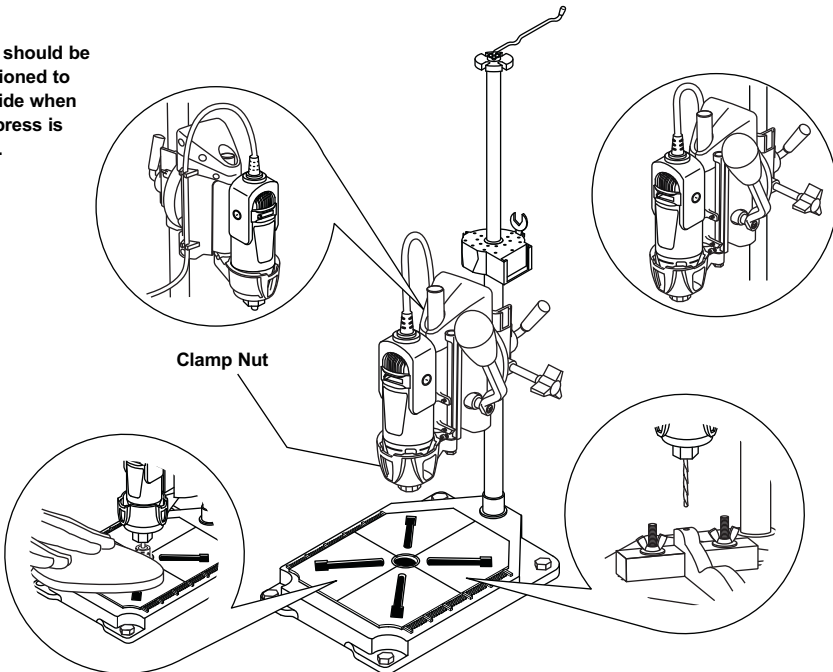

Figure 3. Installing Rotary Tool
7. Insert the rotary tool into the press with the shaft lock to the front. Clamp the tool to the tool bracket by tightening the clamp nut (Figure 3).